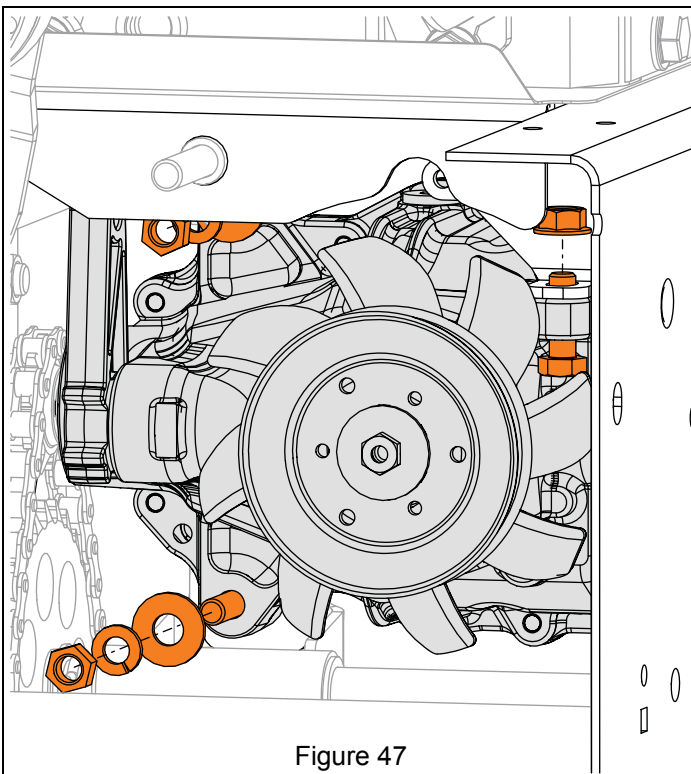

Figure 47
17. Remove hardware securing transaxle to transaxle mount. See Figure 47.